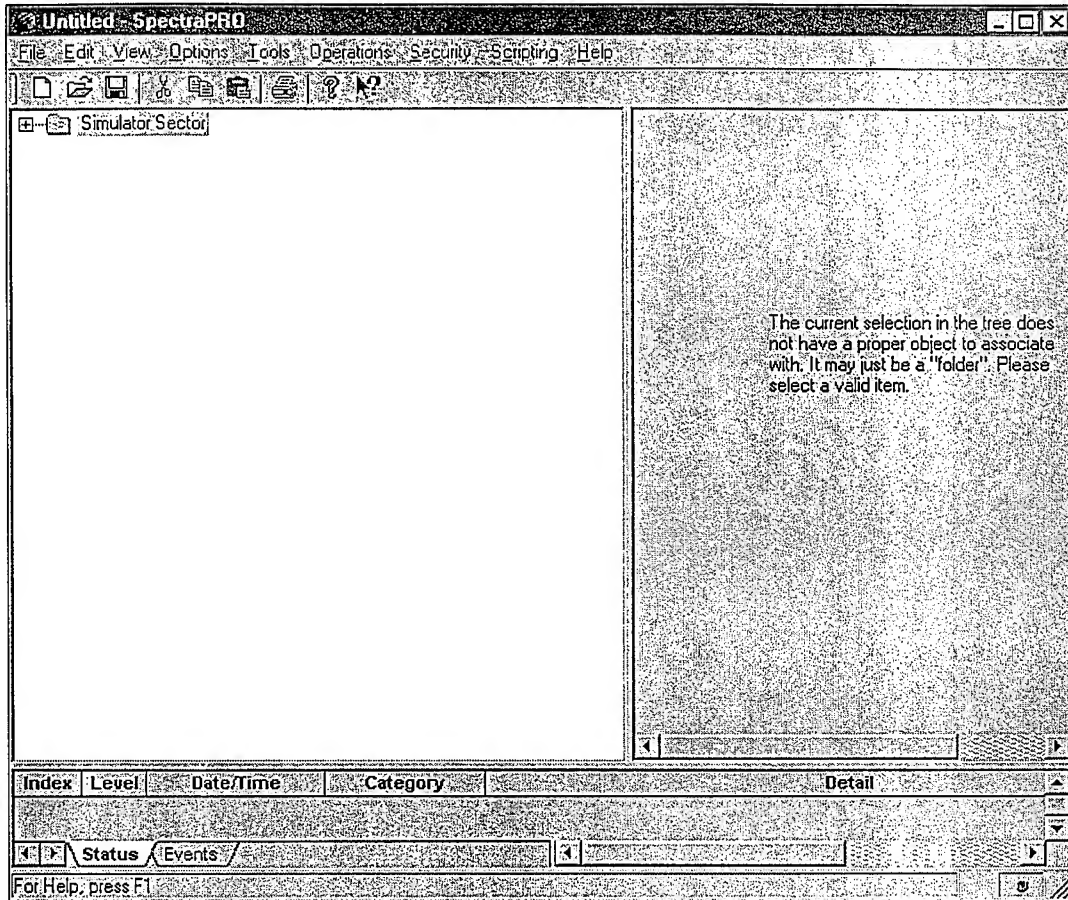

Figure 4. Initial Main Window
5. In the List of Hosts, highlight the desired BCG, then click **OK**. The Initial Main Window appears (see Figure 4).
1. With the Initial Main Window window displayed appears (see Figure 4) click on the plus sign to the left of the desired host.